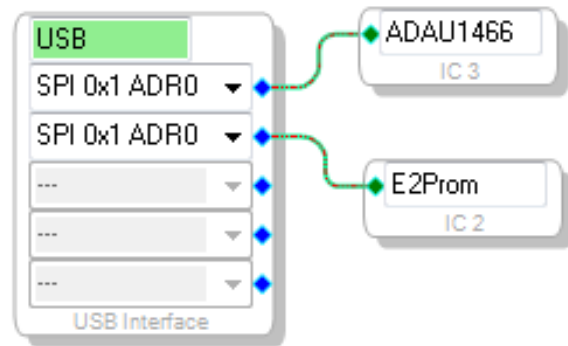

Figure 73. E2Prom Setup in the Hardware Configuration Tab
3. Set the communication mode to **SPI 0x1 ADR0** (see Figure 73). (There is no physical connection between the USBi connector and the EEPROM on the EVAL-ADAU1467Z. SigmaStudio writes a small program to the ADAU1467, which then writes the self boot data from the master SPI port to the EEPROM.)